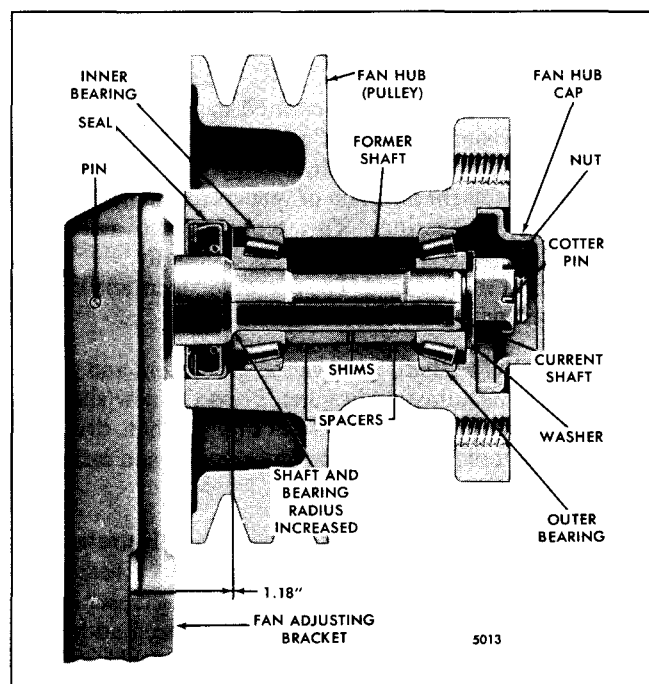
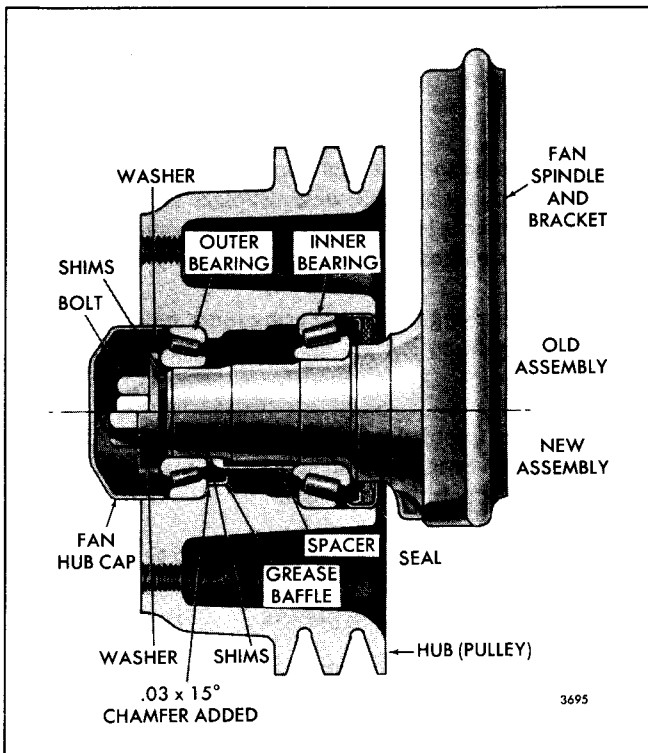

Fig. 6 – Shaft Type Fan Hub Assembly (6V Engines)
Fig. 7 - Spindle Type Fan Hub Assembly (6V and 8V Engine)
2. Remove the hub retaining cotter pin, nut and washer (Fig. 6) or the bolt and special washer (Fig. 7 and 8). Also, remove the shims if the former type fan hub assembly illustrated in Fig. 7 is used.
5. Remove the bearing spacer (Fig. 7 and 8) and shims (if the current type hub assembly is used).
The fan hub assembly illustrated in Fig. 6 has been revised. The revisions consist of an increase in the bearing inner race and shaft bearing radii, a hardened hub retaining nut and washer and the addition of spacers and shims on the shaft between the bearings. This type fan hub assembly should be rebuilt with the current parts, especially where the former undercut shaft is used. The current spacers and shims cannot be used with the former shaft.
The spindle-type fan hub assembly illustrated in Fig. 7 has also been revised. A bearing spacer has been added and a new outer bearing, which provides a closer fit on the shaft, replaces the old. A baffle has also been added to retain the grease and assure lubrication at the outer bearing. To facilitate installation of the grease baffle, a .030" by 15° chamfer has been added to the bore in the pulley.
Assemble the fan hub, shaft and adjusting bracket shown in Figs. 6 and 10 as follows:
4. Slide the spacers and shims on the shaft (Fig. 6).
Assemble the fan hub and spindle shown in Figs. 7 and 12 as follows: